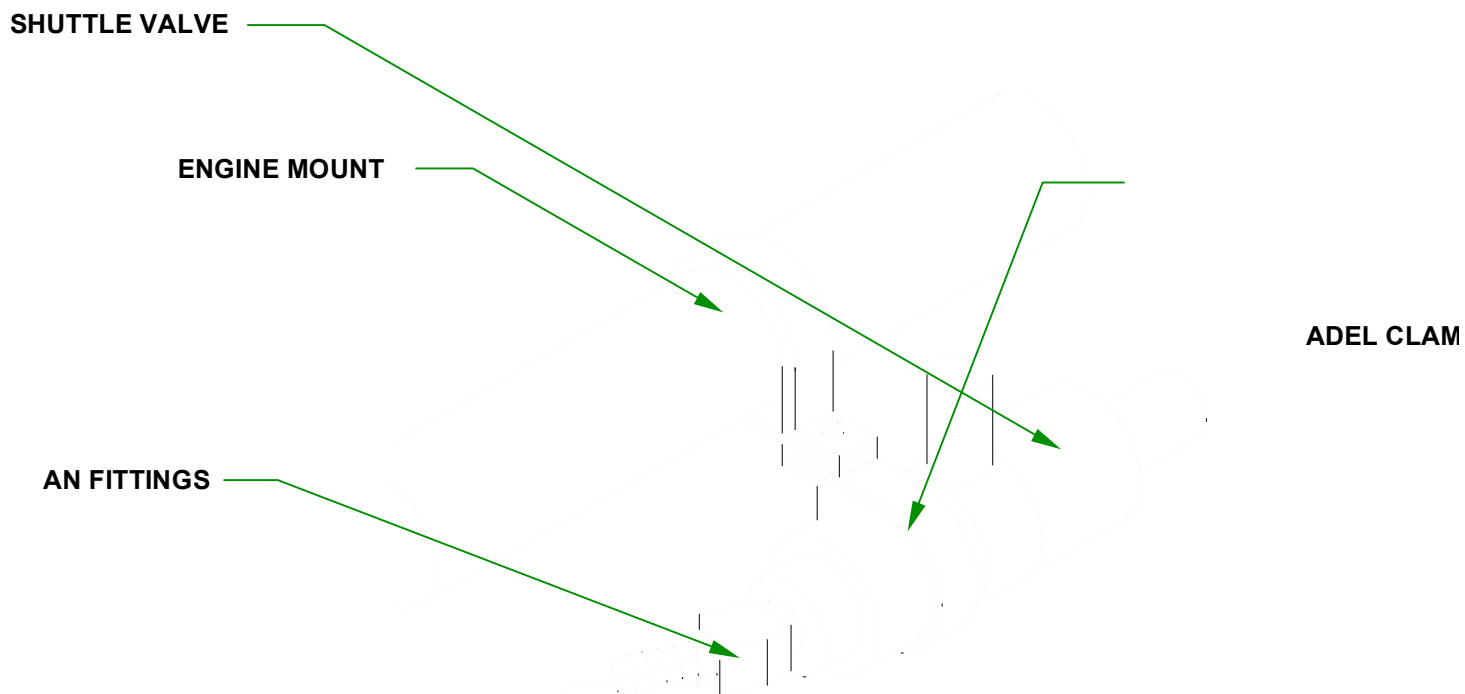

FIGURE 2-1 – TYPICAL SHUTTLE VALVE INSTALLATION
- B. Install the supplied Hose Barb Fitting (and supplied Angle Fitting if necessary) into the end of the new Shuttle Valve. Use Teflon Tape to prevent leaks. See **Figure 2-1**.